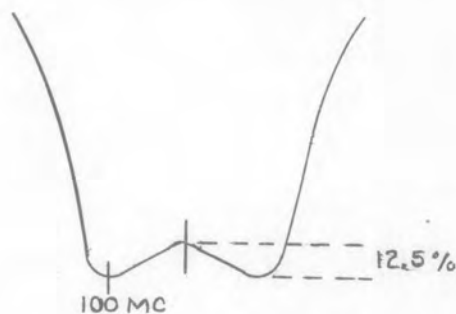

Figure 5-10. Type 501 Receiver Typical Response Curve, V502 to V503 Interstage Alignment, Receiver Dial at 75 mc, Bottom Cover On
(8) Set the receiver dial to 75 mc and sweep generator to a 100-mc center frequency.
(9) Using a calibrated 75-mc marker from the Hewlett-Packard 608D signal generator, adjust C518 and C528 for a symmetrical double-tuned response with the 100-mc marker appearing at the low frequency peak as shown in Figure 5-10.
(10) Adjust C523 for 12.5% center dip as shown in Figure 5-10.
(11) Repeat steps (9) and (10) until the final response curve assumes the proper shape with the bottom cover on.